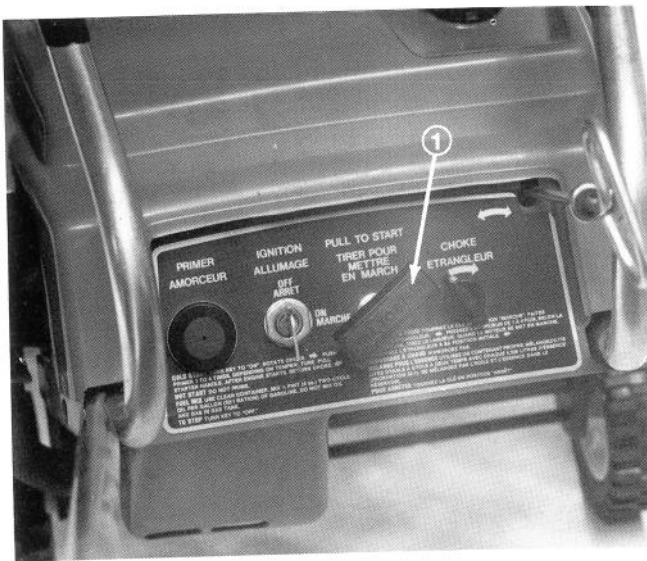

Figure 5
1. Primer (Fig. 5) — Push primer to pump a small amount of fuel into the carburetor, which allows the engine to be started easier in cold temperatures. DO NOT USE PRIMER WHEN ENGINE IS HOT.
2. Choke (Fig. 5) — Rotate choke clockwise to start engine. Because air intake into carburetor is restricted, engine receives a rich fuel mixture for easy starting.
3. Ignition Switch (Fig. 5) — Switch has ON and OFF position. Rotate key to ON to open the switch; then engine can be started by pulling recoil starter or pushing start button on S200 Electric Start. Rotate key to OFF to stop the engine.
6. Recoil Starter (Fig. 5) — Pull recoil starter to start the engine.
7. Vane Direction Control (Fig. 5 and 6) — Rotate vane control to direct discharge of snow to either side or straight forward.